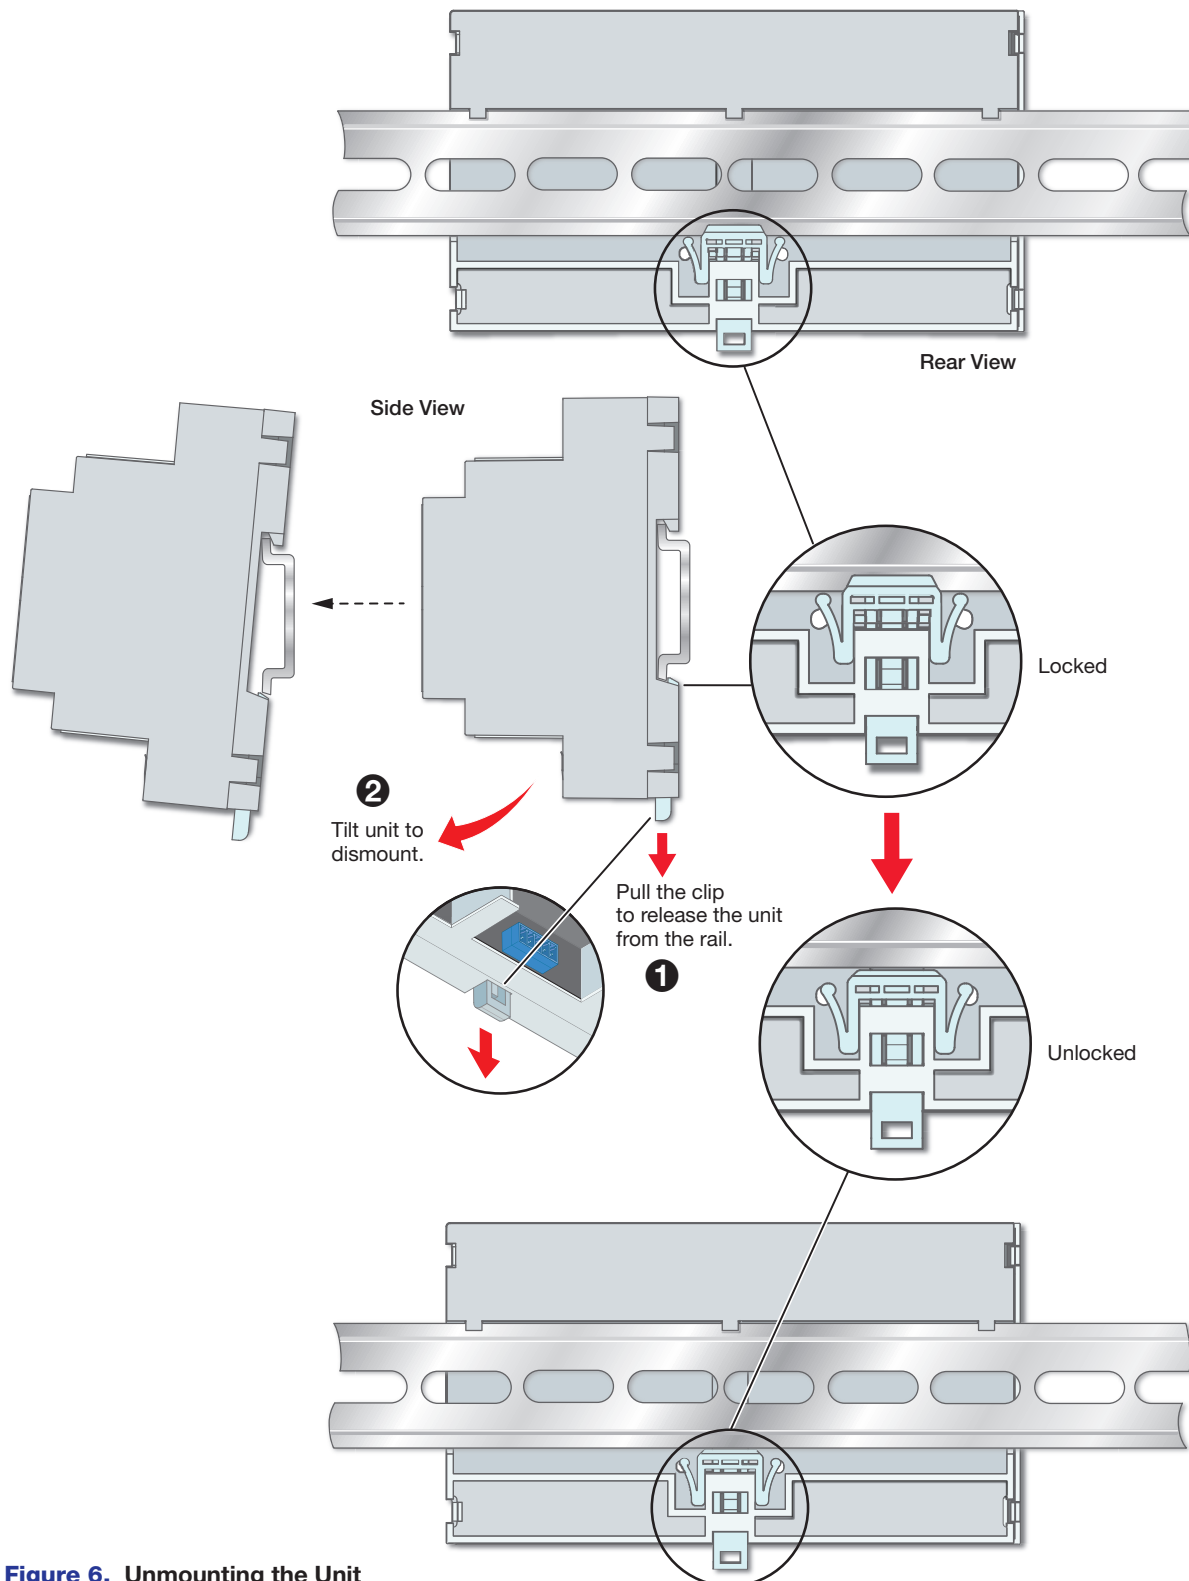

Figure 6. Unmounting the Unit
1. Pull the mounting clip down to release the unit from the bottom of the rail (see **1** in figure 6). If you cannot grasp and pull the clip by hand, insert a small, flat-bladed screwdriver (such as an Extron Tweaker) through the slot in the clip and pull it downward.
2. While the clip is pulled down, tilt the IPCP Pro away from the DIN rail and lift it off the rail (see **2** in figure 6).